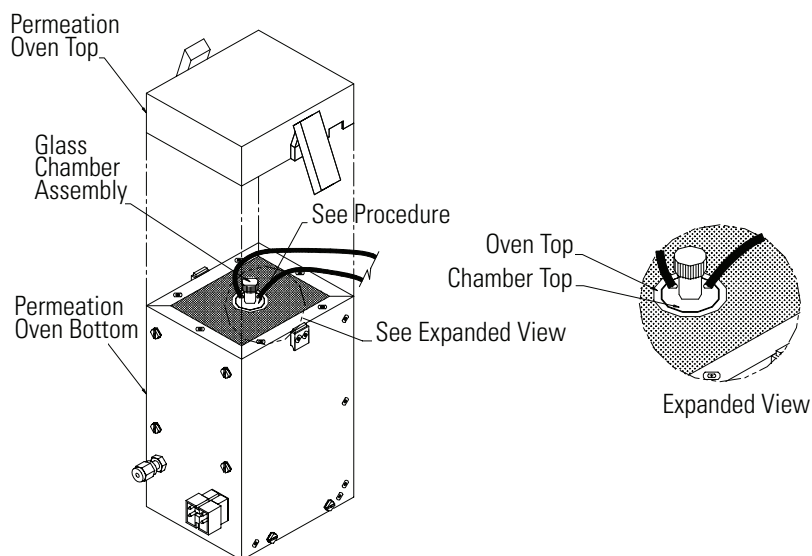

Figure 2-4. Replacing the Glass Chamber Assembly
- g. Replace glass chamber assembly into oven until top of assembly is flush or slightly below oven top (Figure 2-4).